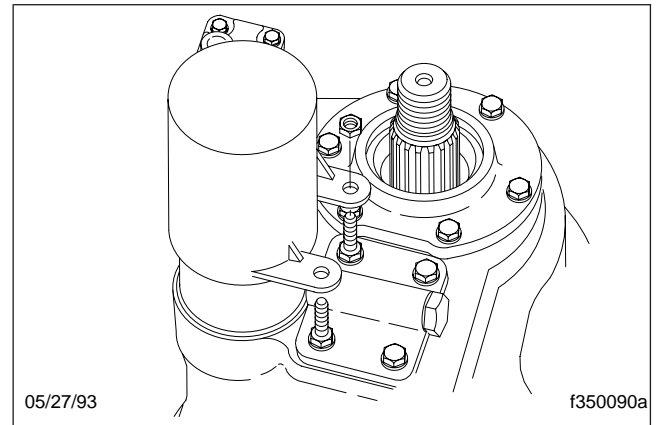

Fig. 8, Axle Oil Filter Cover Removal and Installation
- 3.1 To remove the filter from the helical gear cover, remove only the two relief valve cover stud nuts and washers, then lift off the filter cover. Do not remove the cap-screws. See Fig. 8.